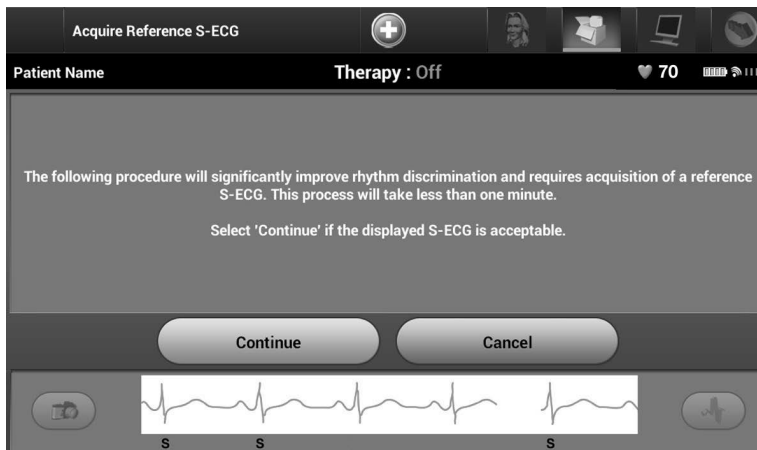

Figure 29: *Acquire Reference S-ECG screen*
- Following the optional optimization process, the Acquire Reference S-ECG screen is displayed (Figure 29). Select the Continue button to acquire a reference S-ECG.